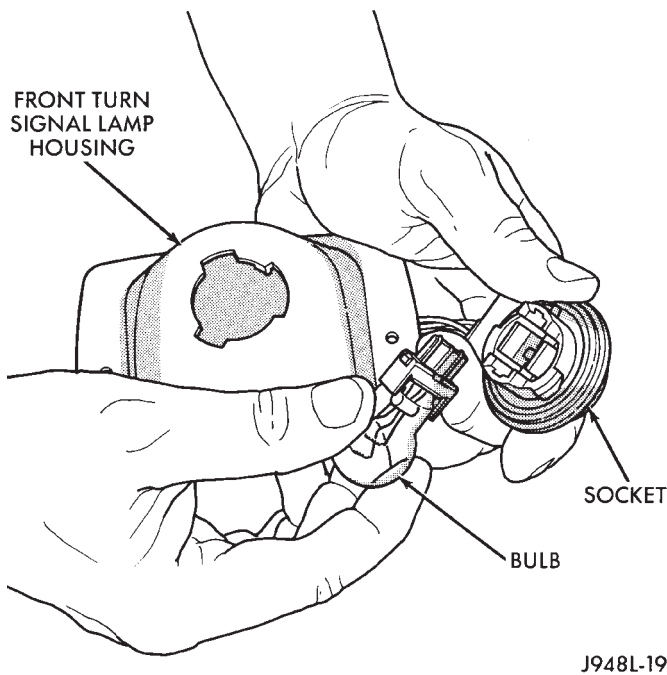

Fig. 22 Park/Turn Signal Lamp Bulb Replacement—YJ Vehicles
(1) Remove the park/turn signal lamp housing screws (Fig. 22).